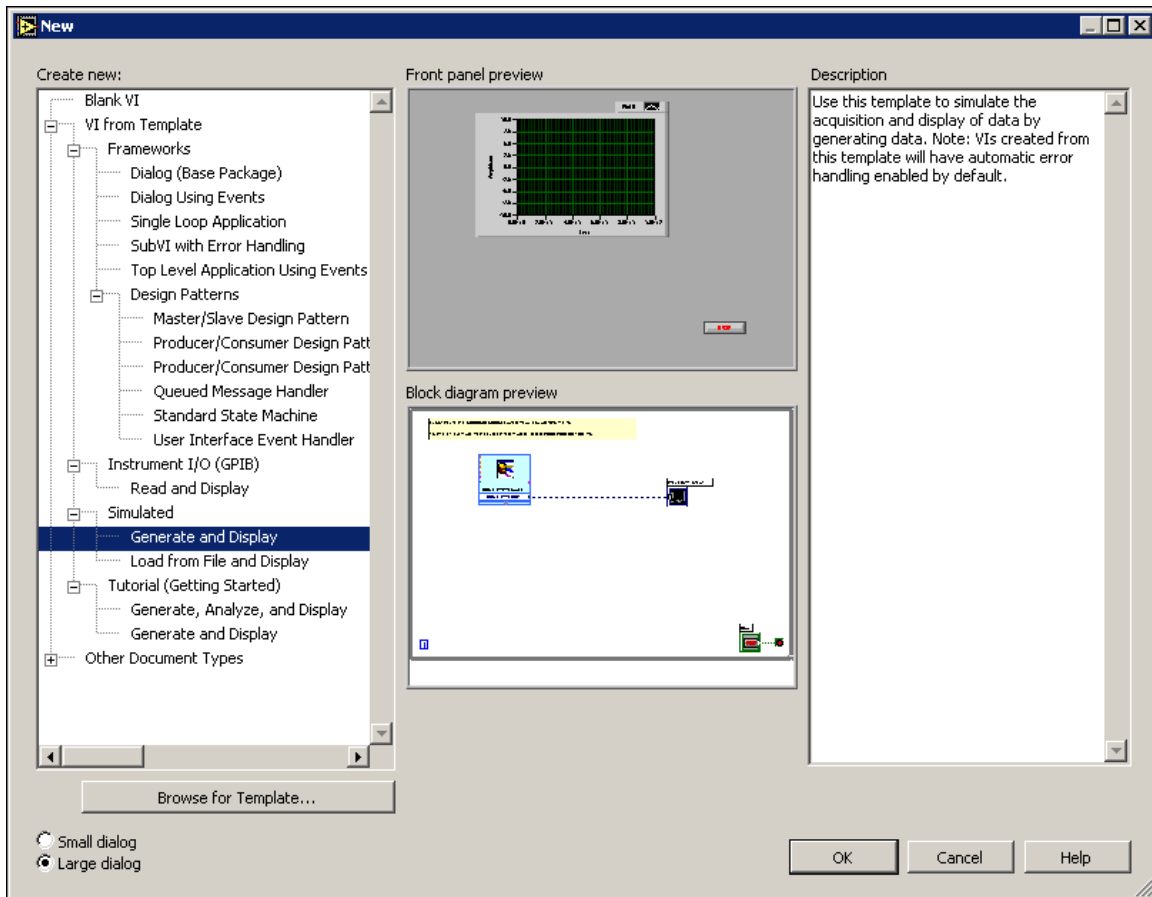

Figure 1.19
3. Select VI from Template»Tutorial (Getting Started)»Generate and Display in the Create new list. This template VI generates and displays a signal. Notice that previews of the template VI appear in the Front panel preview and the Block diagram preview sections. The Figure 1.19 shows the New dialog box and the Generate and Display template VI.